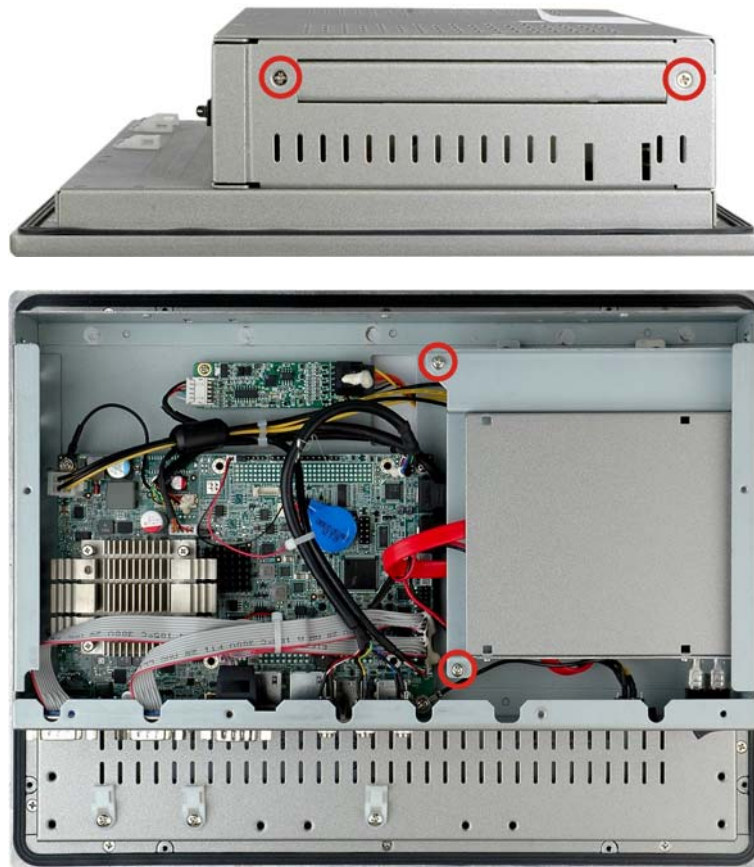

Figure 3-18: Optical Drive Bracket Retention Screws
- Step 2:** Remove the optical drive bracket. Undo the optical drive bracket screws and remove the optical drive bracket. See **Figure 3-18**.
- Step 2:** Remove the optical drive bracket from the PPC-3712A-N26. To do this, remove four retention screws, two on the side panel and two inside the panel PC (**Figure 3-18**).